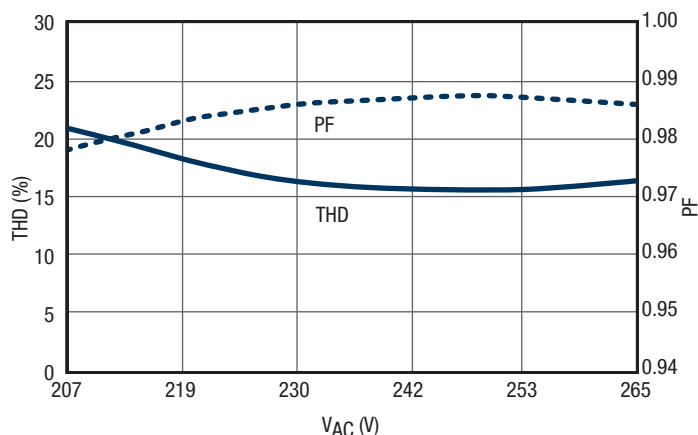

Figure 5. THD and PF vs. V_{AC} for 3-Step Solution
For a typical 2-step driving scheme using a single XR46203, the electrical performance is good enough to meet applications where the Power Factor (PF) is higher than 0.92 and the Total Harmonic Distortion (THD) is around 30%. If higher PF or lower THD is required, one more XR46083 or XR46084 can be added to the circuit to make a 3-step driving scheme, as shown in below. The 3-step system can provide better electrical performance with PF greater than 0.96 and THD approximately 20%. Line regulation, THD and PF performance are illustrated in Figures 5 and 6.